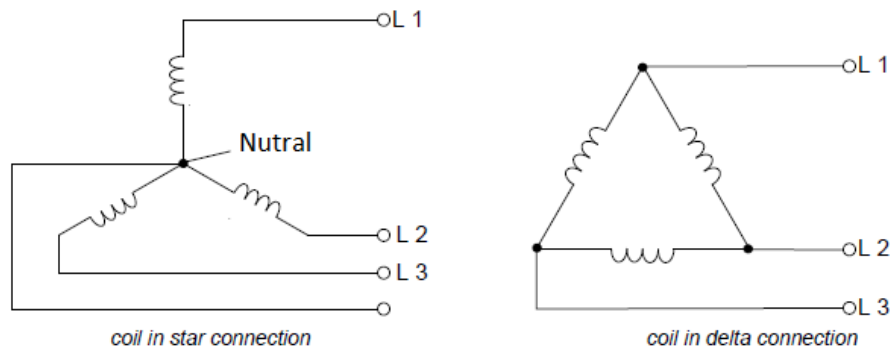

Figure 9.2: Star and Delta connections
Two connection types are common for the coils of AC generators, the star connection, and the delta connection, see figure 9.2. The phase (ph) and the line-to-line (L) relations in Star and Delta connections (considering ABC sequence) are given in Table 9.A